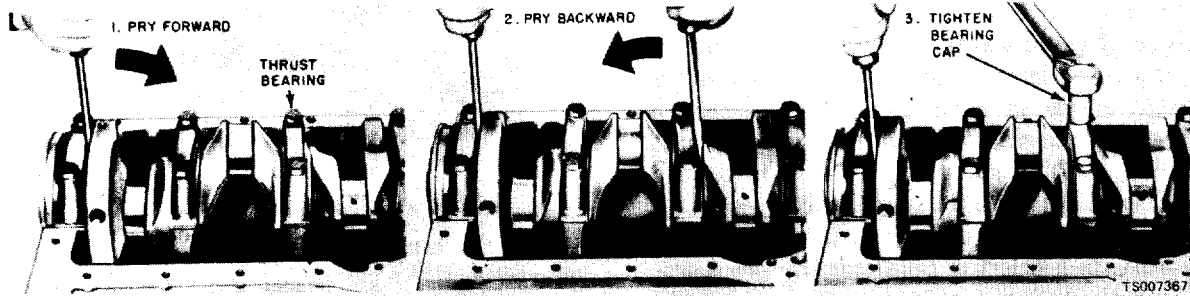

Figure 6-38. Aligning Thrust Bearings.
(10) Install the thrust bearing cap with the bolts finger-tight.
(11) Pry the crankshaft forward against the thrust surface of the upper half of the bearing (fig. 6-38).